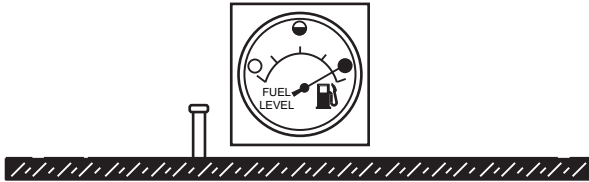
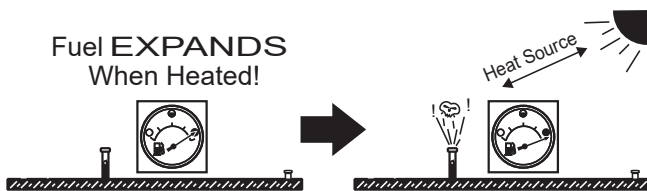

Figure 40. Full Fuel Tank
Figure 41. Fuel Expansion
- NEVER overfill the fuel tank** — It is important to read the fuel gauge when filling the trailer fuel tank. **DO NOT** wait for fuel to rise in the filler neck (Figure 40). Fuel expands when heated (Figure 41).